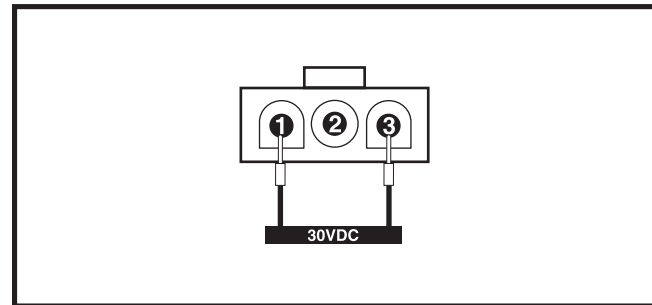

Figure 46. Connector 6a
5. Measure voltage across pin 1 and pin 3 on connector 6a. **See figure 46.**
- *If your multimeter indicates more than 30VDC, then replace the onboard battery charger (6) and retest the system.*